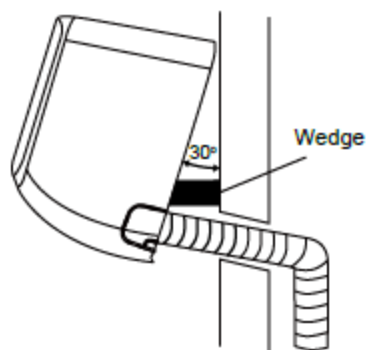

Fig. 4.13
2. Use a bracket or wedge to prop up the unit, giving you enough room to connect the refrigerant piping, signal cable, and drain hose. Refer to Fig. 4.13 for an example.